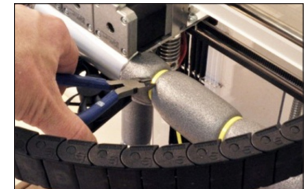

Fig. 5
5. Using the snips, cut away all yellow zip ties securing the foam parts in place. Remove foam packing material. (Fig. 5)